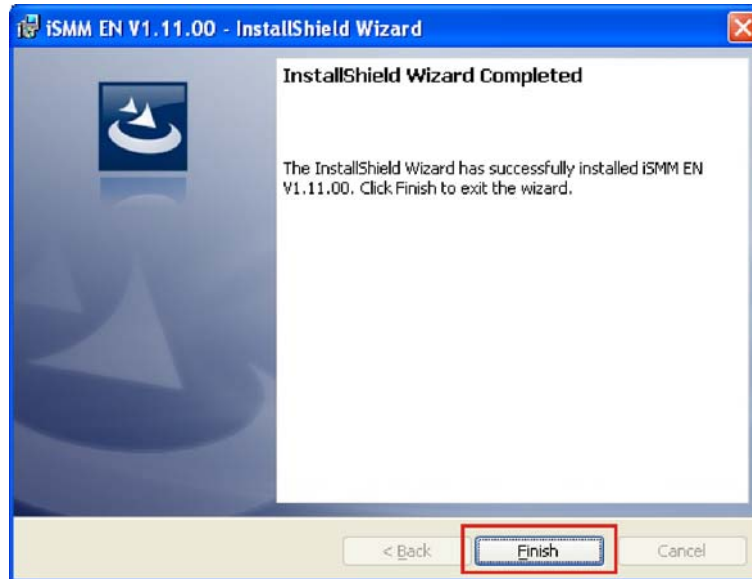

Figure 6-42: iSMN InstallShield Wizard Complete
Step 20: The InstallShield Wizard Completed appears when the drivers are finished installing. (Figure 6-42)
Step 21: Click **FINISH** to exit the installation program.(Figure 6-42)